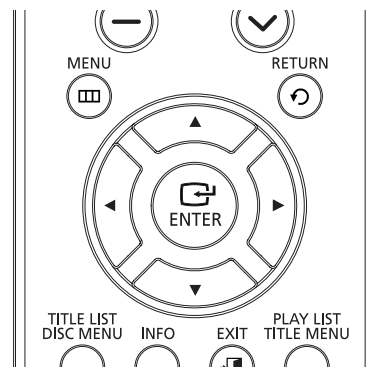

Fig. 4-2 Remote Control
- 4) Press the **ENTER** button on the remote control (Fig. 4-2).